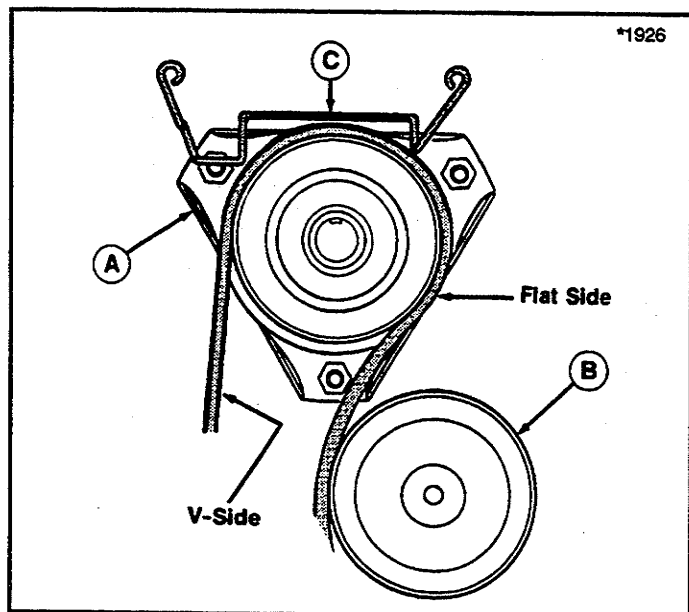

Figure 4. Belt Installation
2. Route belt underneath rider and **over the drive axle**. Install mower belt around bottom pulley (V-side) of PTO. Refer to figure 4.
- See figure 4. Remove mower belt from bottom pulley (V side) and idler pulley (flat side). Hardware securing belt stop may need to be loosened to remove belt.